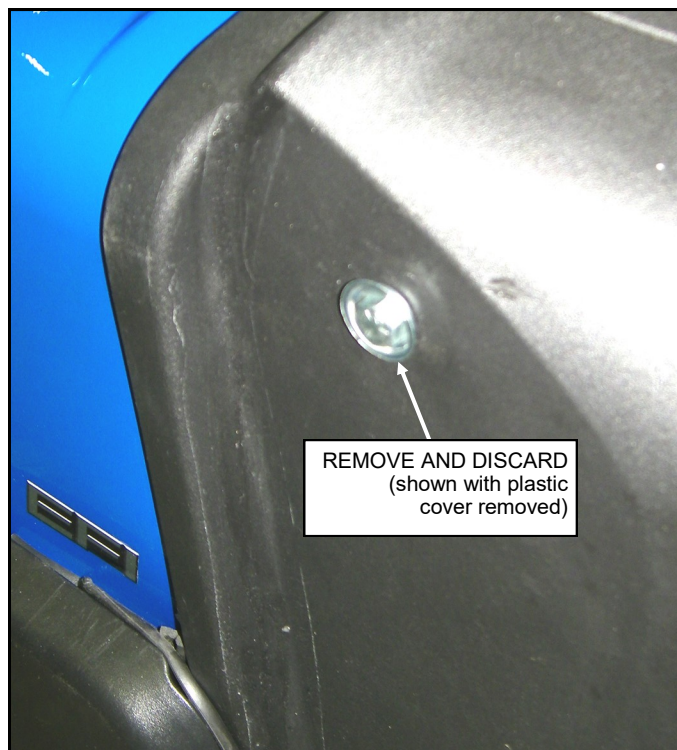

Figure 1.6: Dashboard Side Bolts
- 1.6 Remove and discard the plastic caps, bolts and washers at either side of the dashboard (**Figure 1.6**).